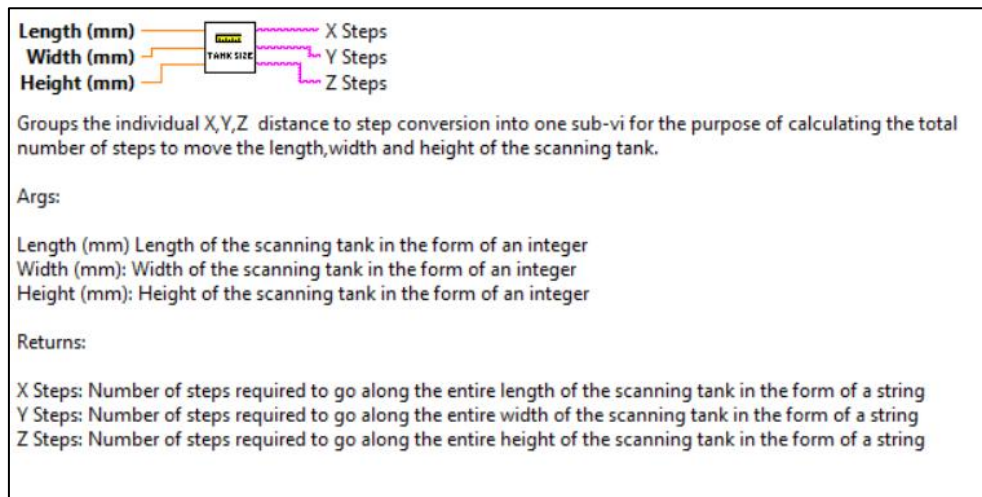

Figure 3 - Example of the description provided with each block/icon/Sub-vi
- Each block (both the custom-designed ones, and built-in ones) will have a description of what it does as well as its inputs and outputs. (example: figure 3)